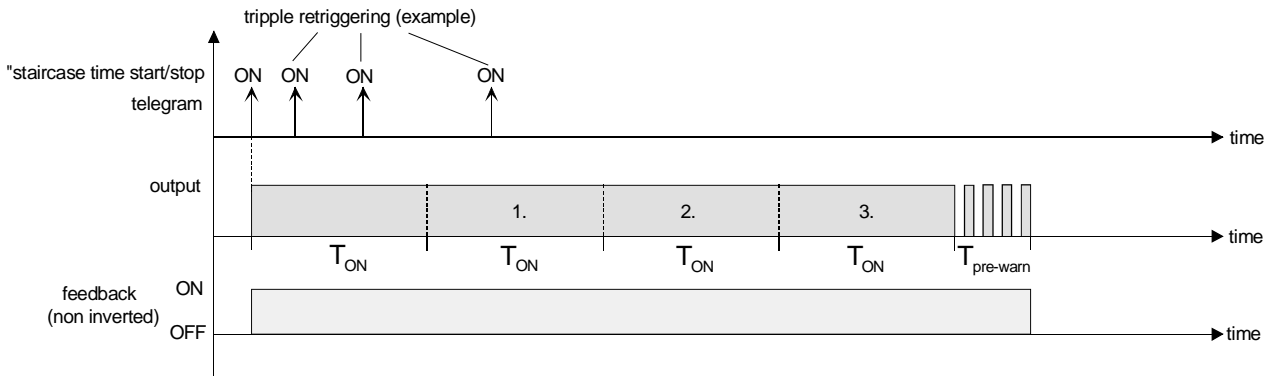

Fig. 14: Time extension for staircase lighting function
With the time extension function, the staircase time can be retriggered several times (i.e. extended) via the "Staircase function start/stop" object. The duration of the extension is defined by repeated operation of a control device (several ON-telegrams in succession). The parameterized staircase time can thus be extended by the parameterized factor (max. 5-fold). The extension is then always automatically added to the end of a simple staircase time (T_{ON}) (cf. Fig. 14).
- Set the parameter "Supplementary function for staircase function" on parameter page "Ax – Staircase function" to "Time extension" and select the desired factor in the "Maximum time extension" parameter. On reception of an ON-telegram to the "Staircase function start/stop" object, the staircase time is retriggered at the end of the ON-time as often as determined by the number of telegrams received, however, no longer as permitted by the parameterized factor. Thus, the setting "3-fold" means that the started staircase time can be automatically retriggered at maximum three more times after elapsing. This means that the time corresponds to 4 times the basic time (cf. Fig. 14).